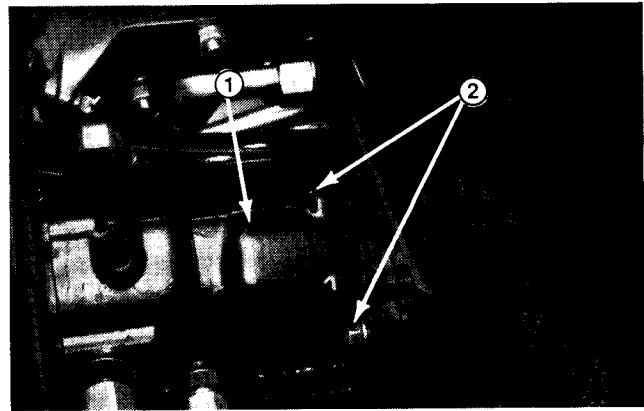

Figure 25
7. Remove two (2) capscrews and nuts securing variable displacement pump to frame and lift pump out of machine (Fig. 25).